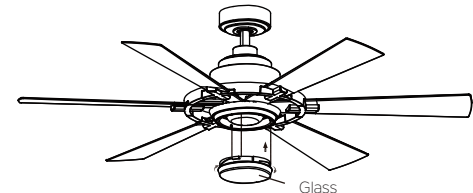

Fig. 23
Step 4. Secure the glass to switch housing by twisting in a clockwise direction, twist the glass gradually until it snaps on to the switch housing. Do not over-tighten. (Fig. 23)